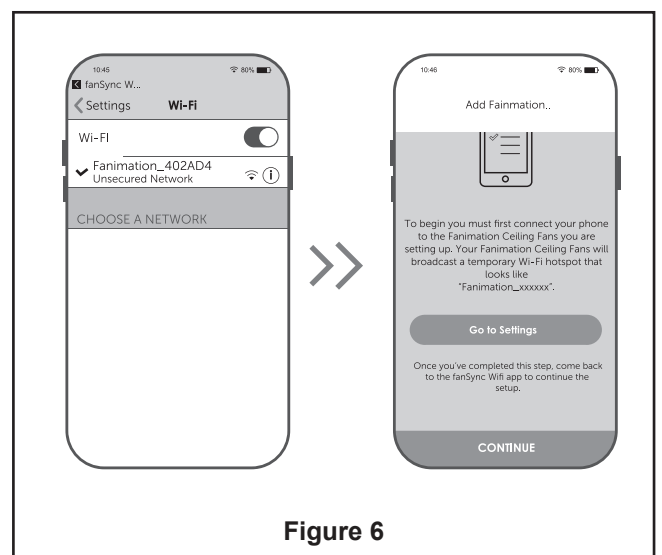

Figure 6
- ☐ 6. Replace battery cover on the remote control and secure with the previously removed screw. (Figure 6)
- ☐ 6. In the WiFi settings on your smart device, select the Fanimation_XXXXXX device and return to the fanSync WiFi app and press" CONTINUE". (Figure 6)